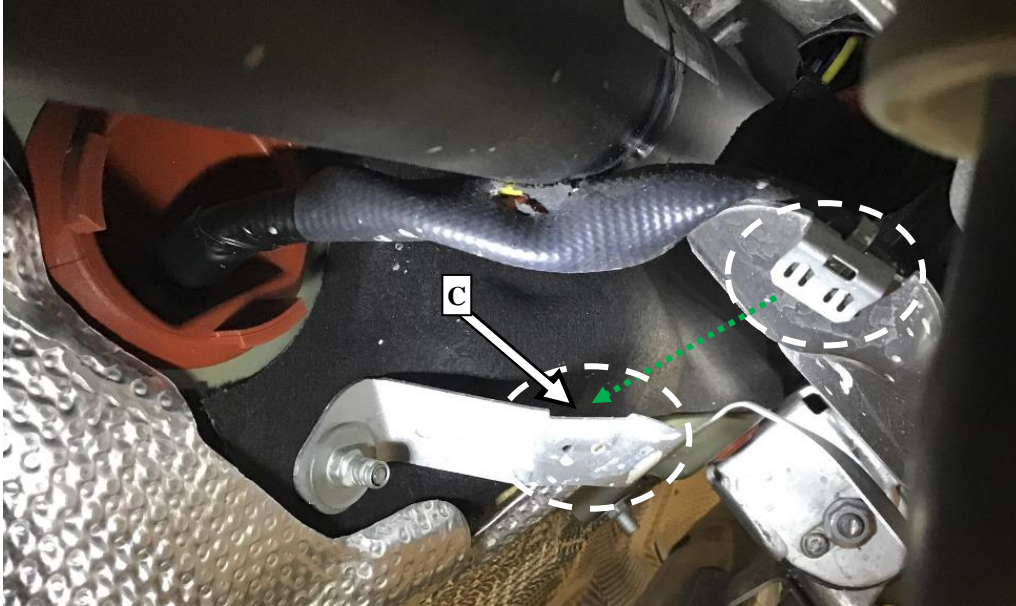

Figure 3, shown on model 253
1. **For model 253** - Clip the wiring harness in at the **correct** bracket (C, Figure 3).
-  Unclip wire and retaining clamp, re-use retaining clamp on bracket (C, Figure 3).